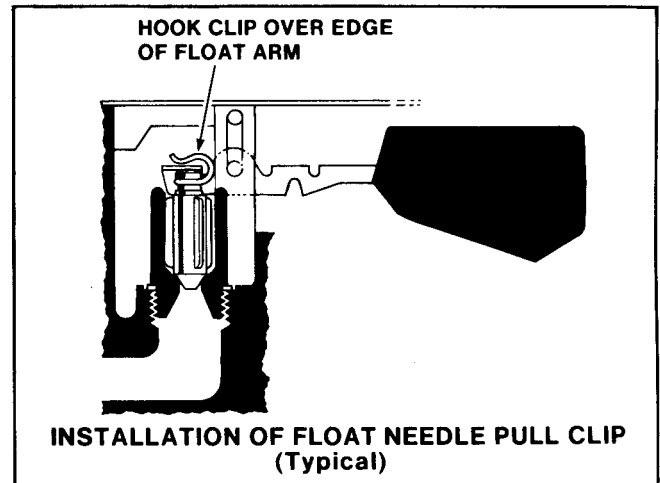

Figure 67 Float Needle Pull Clip Location
11. Install needle by sliding float lever under pull clip from front to back. Correct installation of the needle pull clip is to hook the clip over edge of the float on the float arm facing the float pontoon (Figure 67). With float lever in pull clip, hold float assembly at toe and install hinge pin from pump well side (ends of hinge pin face the accelerating pump well).